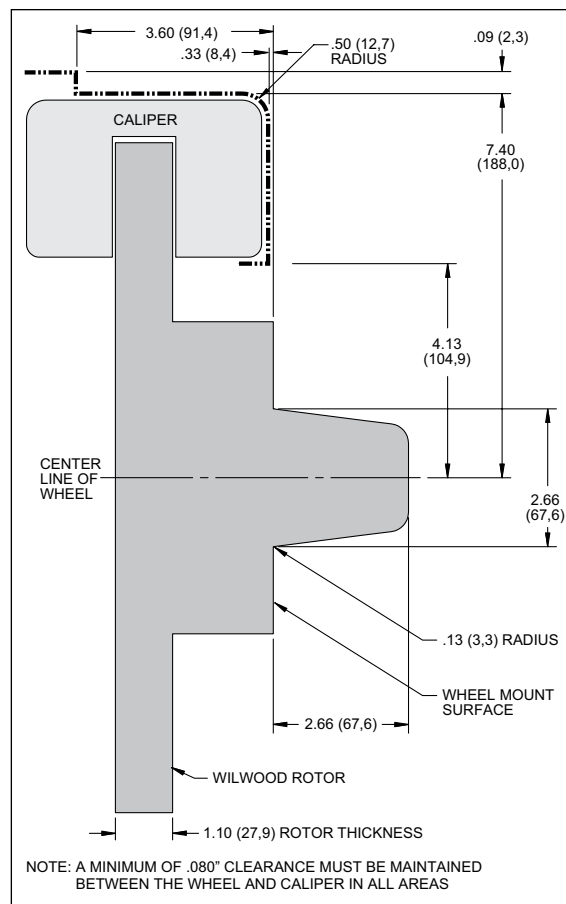

Figure 2. Wheel Clearance Diagram
- Review the wheel clearance diagram (figure 2, page 3) to verify that there is adequate clearance with the wheels you will be using with the installation.
- Verify your wheel clearance using Figure 2.